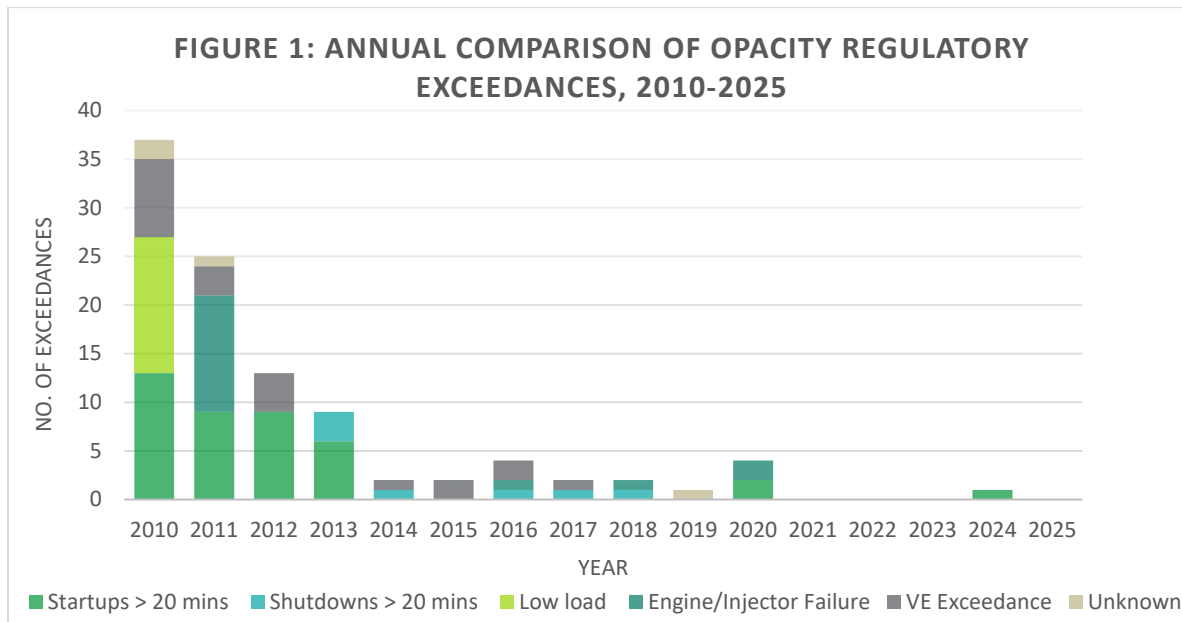

Figure 1: Comparison of Opacity Monitor Regulatory Exceedances 2010-2025
During the 2025 monitoring period there were zero (0) exceedances of the regulatory standard recorded by the in-stack opacity monitors. Since 2010, there has been a significant reduction in the number of opacity exceedances reported (**Figure 1**). This is an example of BELCO's continued effort to improve our Standard Operating Procedures (SOP's) and operate more efficiently. All exceedances recorded by the in-stack opacity monitors presented in the quarterly reports are permitted under Section 5.3.2. of BELCO's Operating Licence.